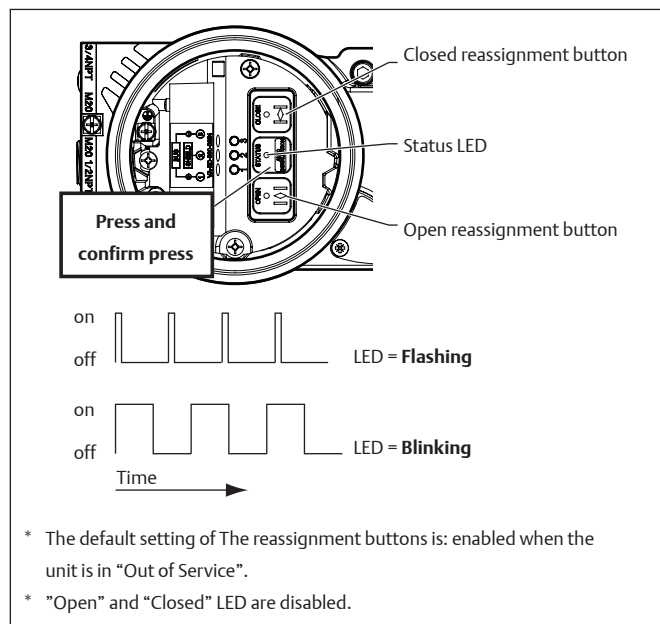

Fig. 7. Button board
1. Initialization using the local buttons (see fig. 7).